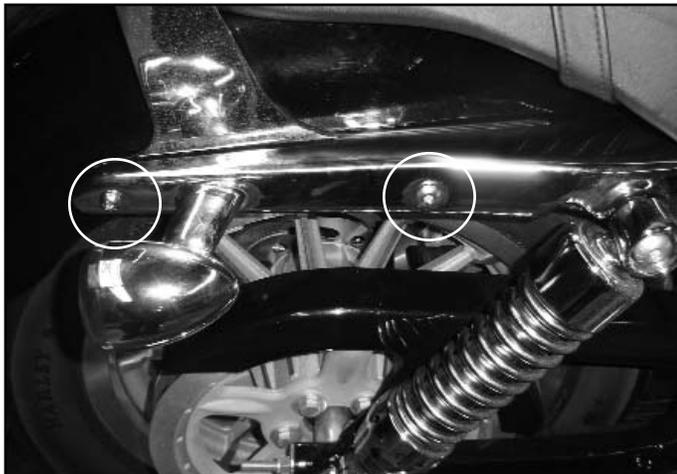

Figure 3
4. Remove strut cover (**T40 and 1/2" Wrench**). **Figure 3**